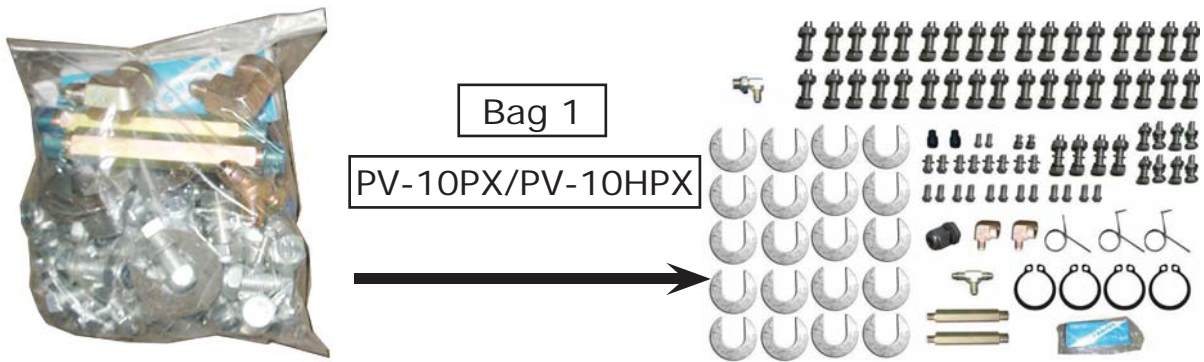

Fig. 13
8. Check the parts in the parts bag 1 according to parts bag list (See Fig. 13).